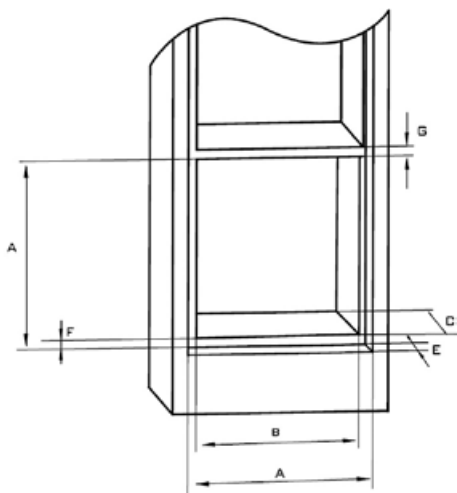

Fig. 1a
- The unit should be installed in standardised kitchen furniture designed for built-in appliances or in properly adapted furniture of dimensions according to Fig. 1a, 1b.
2. For the required built-in box dimensions see Fig. 1a, 1b. For the sake of efficient air circulation the unit has to be located according to the dimensions on the pictures and the design of the cabinet must enable air flow into its bottom part.